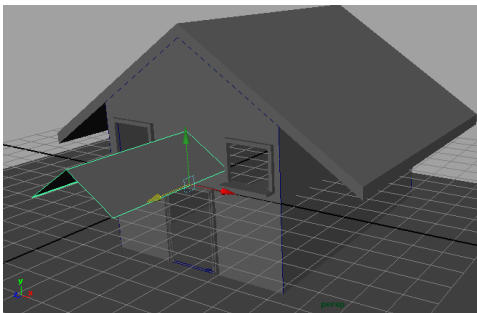

*Figure 3-132 Door shade curve*
1. Maximize the front viewport. Choose **Create > EP Curve Tool** from the menubar and then draw a door shade curve, as shown in Figure 3-132 and then press ENTER key.